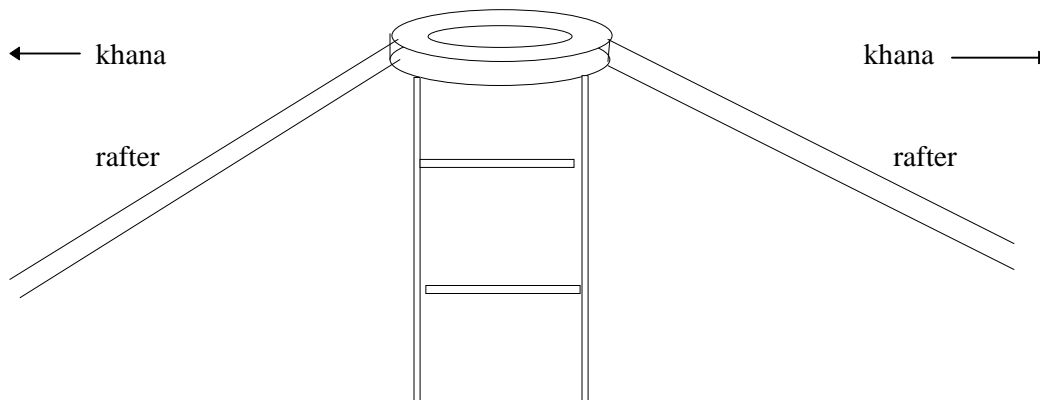

Figure 12: The center support.
During erection, the nails in the top of the support slide into the 2 holes you drilled in the bottom of the roof ring, and one person stands in the middle of the yurt holding this up while other people insert rafters (see Figure 12).
8. While one person is holding the ring up, other people insert the first 4-6 rafters (see Figure 12), evenly spaced around the yurt. (Start with one, then the one opposite it, then the ones between them, and so on.) The easiest way to insert a rafter is to stand outside the yurt, lift